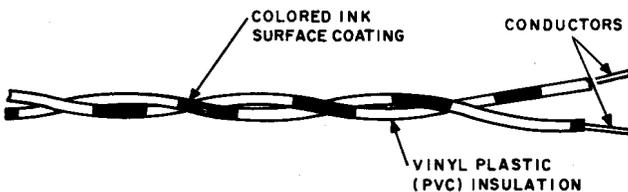

Fig. 3—F Cross Connecting Wire (One-Pair Size)
2.03 **F cross-connecting wire** (Fig. 3) has a single layer of vinyl plastic insulation and is intended for either indoor or outdoor cross-connecting terminals. It is available in 1-pair, 2-pair, 3-pair, and triple size. The 3-pair size allows the wiring of six button key sets and other installations requiring six conductors.